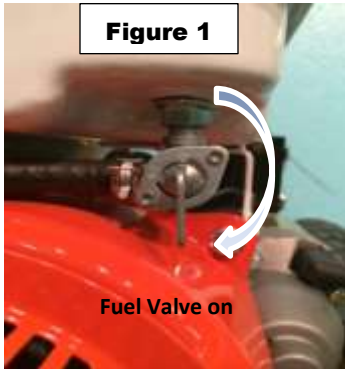

Figure 1
- Rotate the fuel valve to the “on” position.(figure 1 or 2)